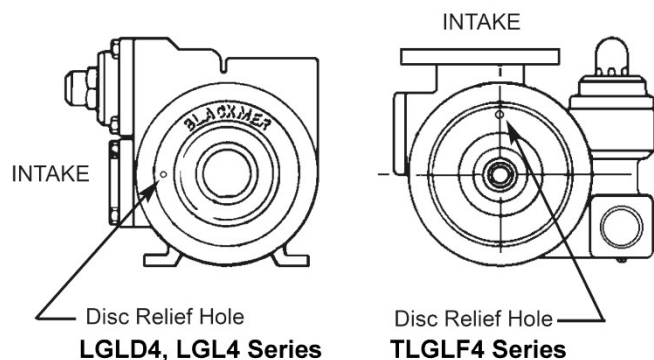

Figure 9 - Disc Relief Hole Location
4. Place the disc (71) against the head (20) with disc relief hole located so that when the head is mounted on the pump with the "Blackmer" name in an upright position, the disc relief hole will be at the pump intake, 12 o'clock on TLGLF4 series pumps and 9 o'clock position on the LGL4 and LGLD4 series pumps (see Figure 9). Install and tighten the disc machine screws and lockwashers (71A and 71B). The drive tangs of the seal jacket must protrude through the center hole of the disc.